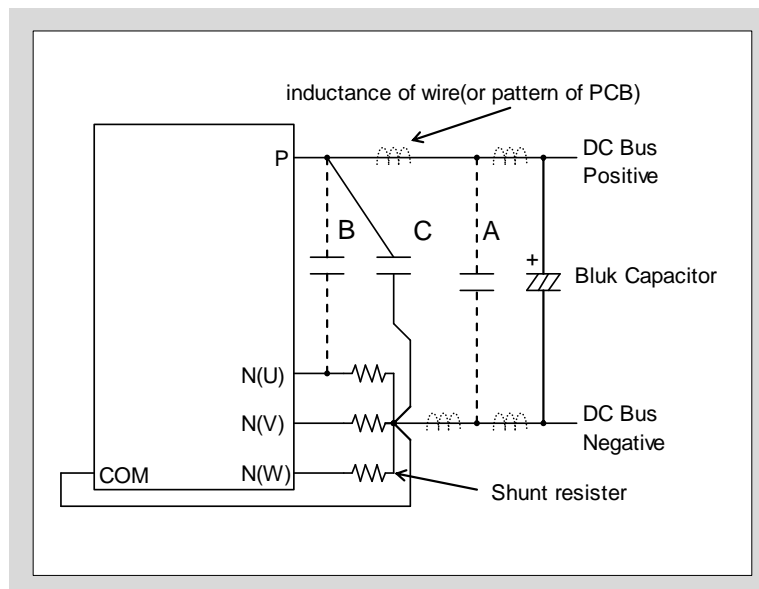

Fig.4-1 Recommended wiring of shunt resistor and snubber capacitor
- External current sensing resistors are applied to detect over current (OC) condition or phase currents. Long wiring patterns between the shunt resistor and the product will cause excessive surge that might damage internal IC and current detection components. To reduce the pattern inductance, the wiring between the shunt resistors and the product should be as short as possible.
- As shown in the Fig.4-1, snubber capacitors should be connected at the right location to suppress surge voltage effectively. If the snubber capacitor is connected at the wrong location "A" as shown in the Fig.4-1, the snubber capacitor cannot suppress the surge voltage effectively because inductance of wiring is not negligible.